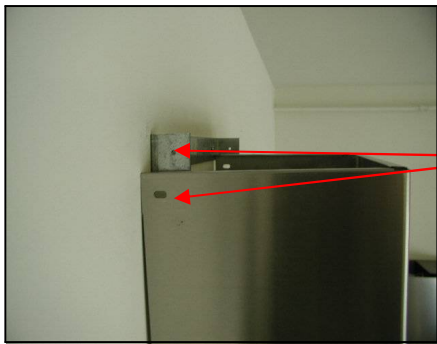

Figure 14
8. Adjust the height of the inner duct cover to the duct cover-mounting bracket. Secure inner duct cover with two (4x8 mm) screws (provided) as shown on Figure 14.